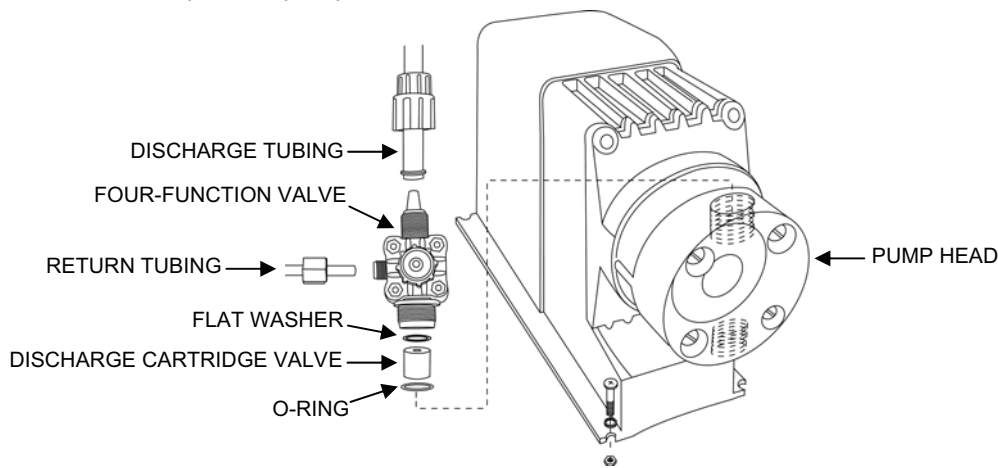

Figure 13. Chemical Injection Pump Discharge Cartridge, O-Ring, and Flat Washer Replacement.
3. Remove the chemical injection pump discharge valve assembly as follows (see Figure 13):
4. Install the new discharge cartridge valve, o-ring, and flat washer as follows (see Figure 13):